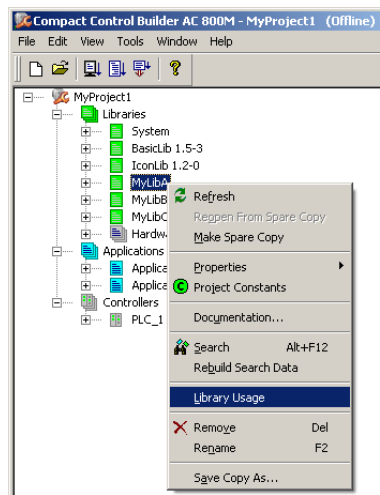

Figure 40. Library Usage
1. Right-click the library and select Library Usage as in Figure 40. The Library Usage dialog box is displayed with list of applications where the library is connected as in Figure 41.